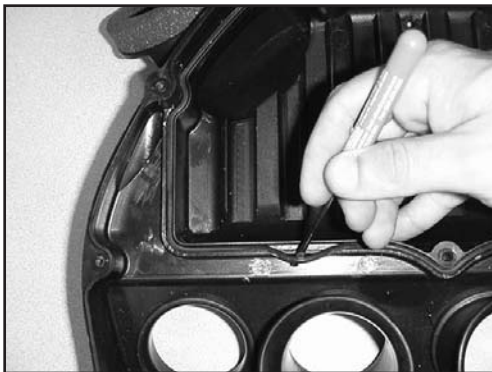

Fig.1
2. Remove the stock o-ring from the air box base. (Fig. 1)